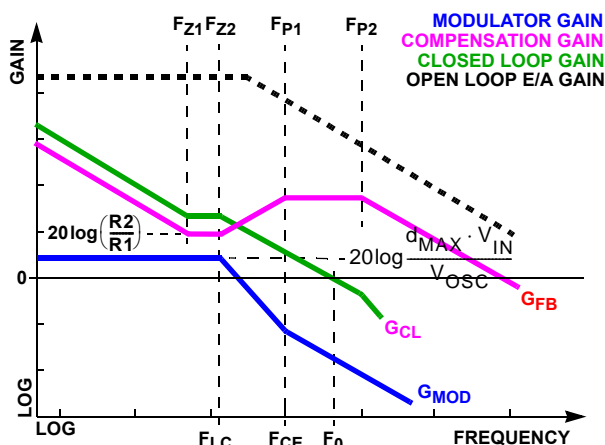

FIGURE 27. ASYMPTOTIC BODE PLOT OF CONVERTER GAIN
Figure 27 shows an asymptotic plot of the DC/DC converter's gain vs frequency. The actual Modulator Gain has a high gain peak dependent on the quality factor (Q) of the output filter, which is not shown. Using the previously mentioned guidelines should yield a compensation gain similar to the curve plotted. The open loop error amplifier gain bounds the compensation gain. Check the compensation gain at  $F_{P2}$  against the capabilities of the error amplifier. The closed loop gain,  $G_{CL}$ , is constructed on the log-log graph of Figure 27 by adding the modulator gain,  $G_{MOD}$  (in dB), to the feedback compensation gain,  $G_{FB}$  (in dB). This is equivalent to multiplying the modulator transfer function and the compensation transfer function and then plotting the resulting gain.